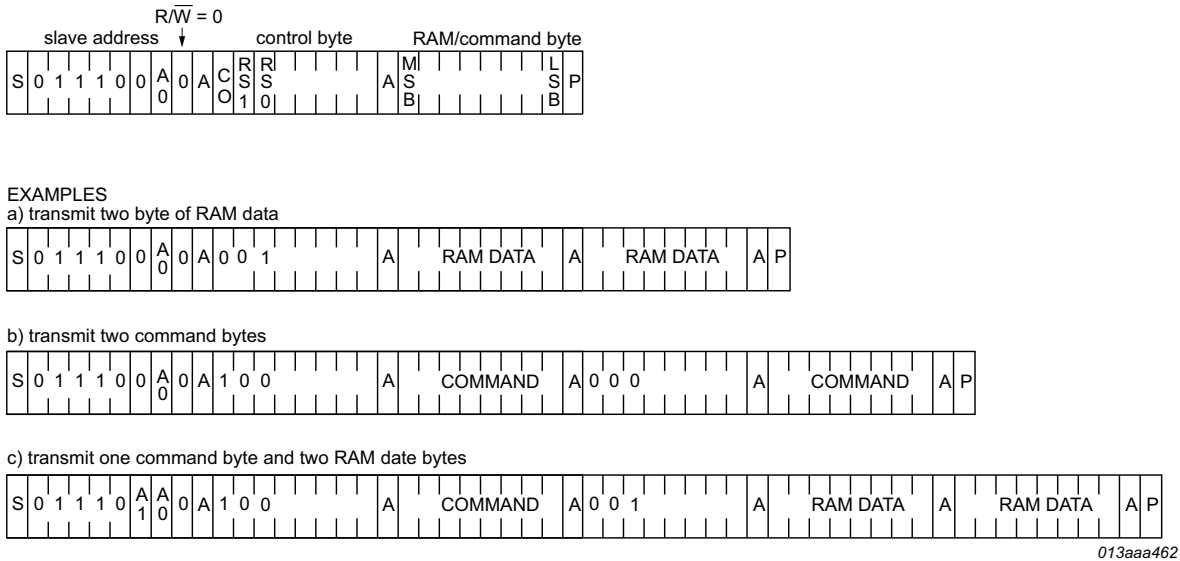

Fig 24. I2C-bus protocol write mode
The I2C-bus protocol is shown in Figure 24. The sequence is initiated with a START condition (S) from the I2C-bus master which is followed by one of the two PCA8546 slave addresses available. All PCA8546 with the corresponding A0 level acknowledge in parallel to the slave address. But any PCA8546 with the alternative A0 level ignore the whole I2C-bus transfer.